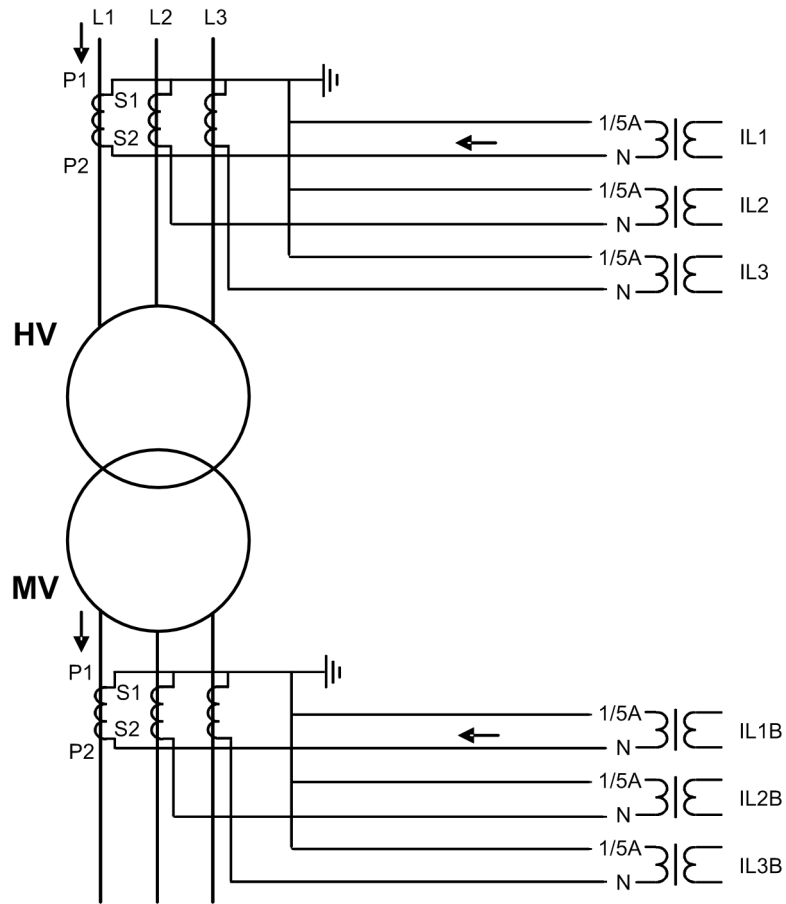
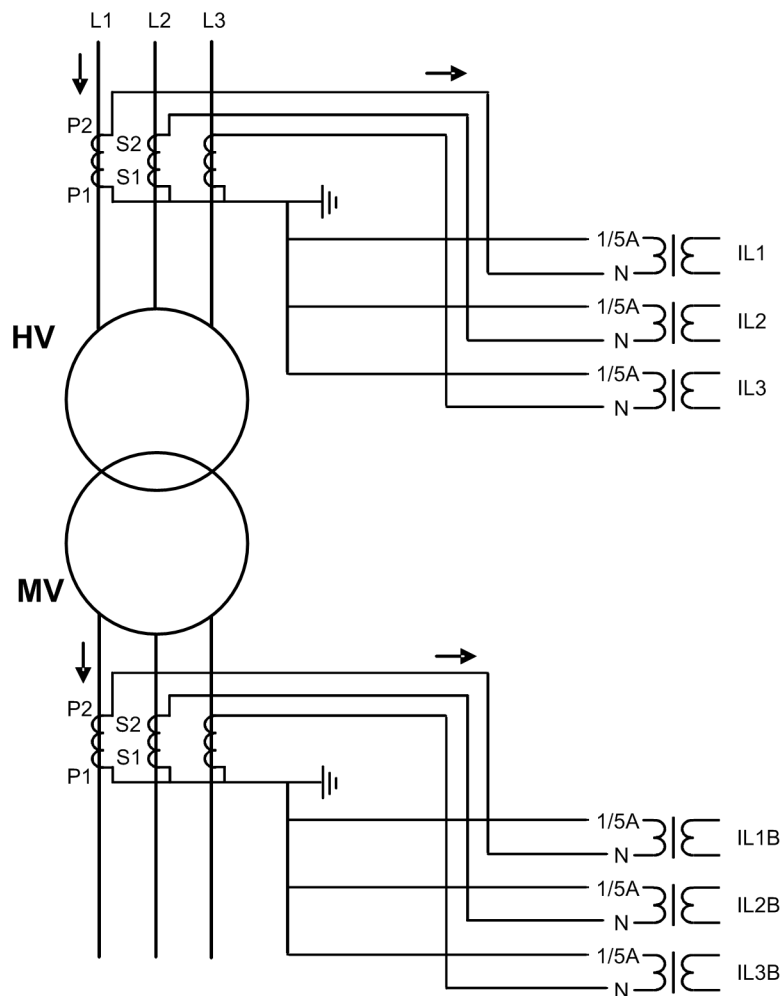

Figure 283: Connection of current transformers of Type 2 and example of the currents during an external fault
Figure 284: Alternative connection example of current transformers of Type 2
- If the positive directions of the winding 1 and winding 2 protection relay currents equate, the *CT connection type* setting parameter is "Type 2". The connection examples of "Type 2" are as shown in Figure 283 and Figure 284.